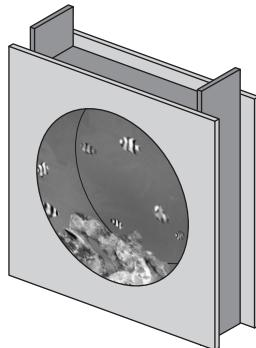

Figure Q7
7. Optimum water conditions in the aquarium shown in Figure Q7 are maintained by a number of analogue devices controlled by a microcontroller. The digital signals sent by the microcontroller are converted to analogue signals by a 4-bit digital-to-analogue converter (DAC).